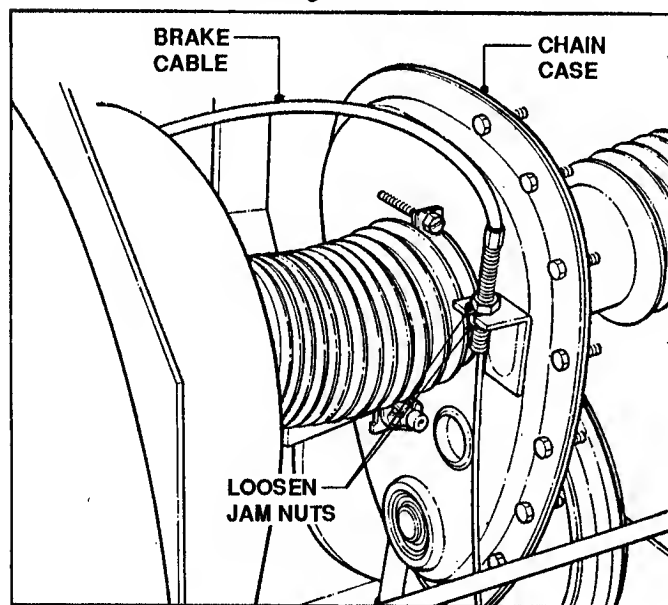

FIGURE 4.18
4. If measurement is less than $3/16$ " or greater than $7/16$ ", loosen the two jam nuts holding the clutch/brake cable to the chain case bracket. See Figure 4.18.